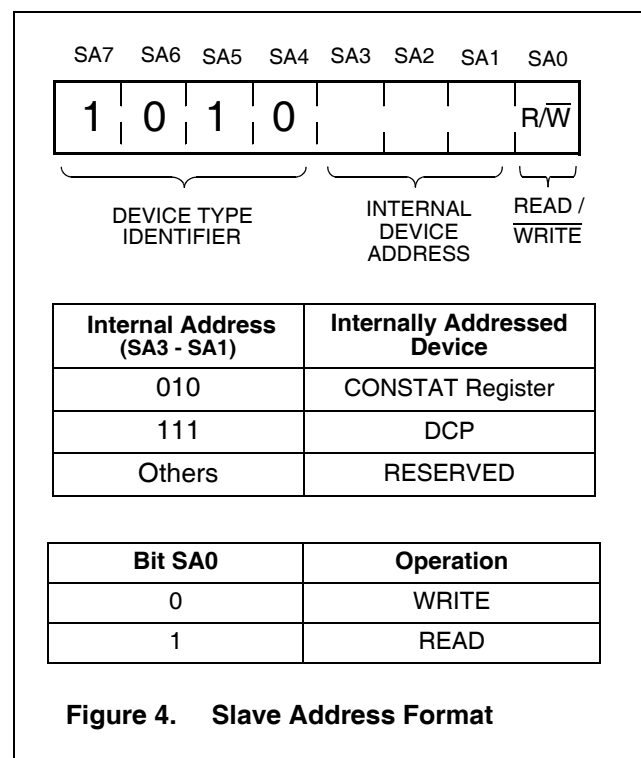
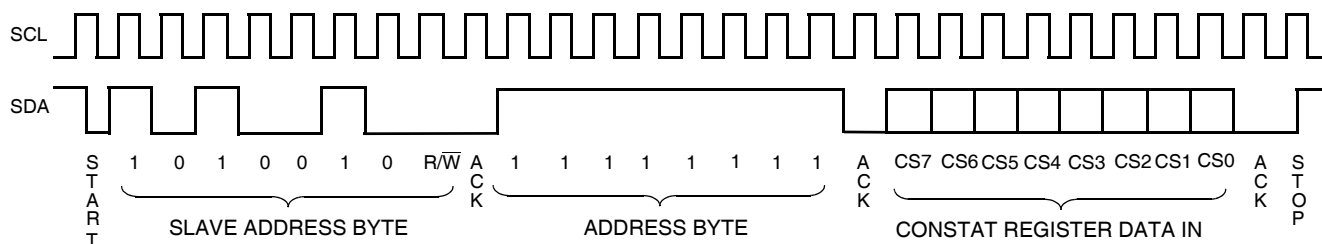

Figure 4. Slave Address Format
Figure 12. CONSTAT Register Write Command Sequence
Following a START condition, the master must output a Slave Address Byte (Refer to Figure 4.). This byte consists of three parts:
- The Least Significant Bit of the Slave Address (SA0) Byte is the R/W bit. This bit defines the operation to be performed on the device being addressed (as defined in the bits SA3 - SA1). When the R/W bit is “1”, then a READ operation is selected. A “0” selects a WRITE operation (Refer to Figure 4.)
Writes to the WEL bit do not cause an internal high voltage write cycle. Therefore, the device is ready for another operation immediately after a STOP condition is executed in the CONSTAT Write command sequence (See Figure 12).
- After a successful write operation to any bits of the CONSTAT register has been completed (See Figure 12).
The CONSTAT register is accessed using the Slave Address set to 1010010 (Refer to Figure 4.). Following the Slave Address Byte, access to the CONSTAT register requires an Address Byte which must be set to FFh. Only one data byte is allowed to be written for each CONSTAT register Write operation. The user must issue a STOP, after sending this byte to the register, to initiate the nonvolatile cycle that stores the DWLK bit. The X9522 will not ACKNOWLEDGE any data bytes written after the first byte is entered (Refer to Figure 12.).